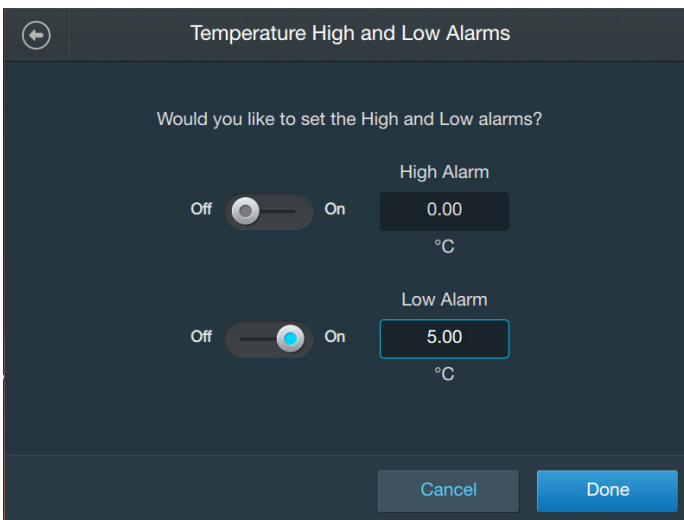

Figure 3.41. High and Low alarms screen.
6. On the screen that appears (Figure 3.41), there will be separate sections for both High and Low alarms. To set up the High alarm, slide the Enable/Disable button to the “Enable” side. In the field under “High Alarm,” enter the temperature that will activate the High alarm.